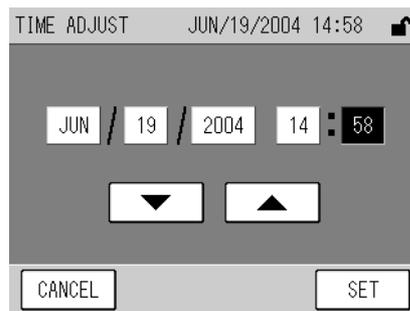

Fig. 71 TIME ADJUST screen
- [TIME ADJUST]: Displays the TIME ADJUSTMENT screen (Fig. 71 on page 56).